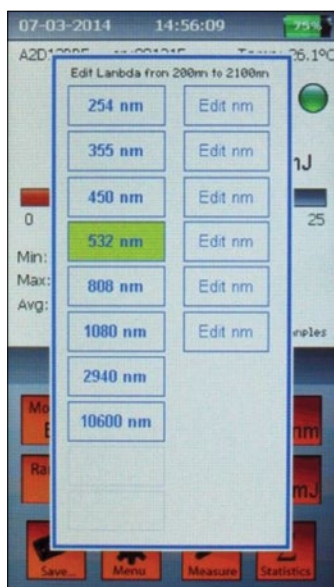

Figure 3
- The "edit lambda" menu (figure 3) will be displayed.